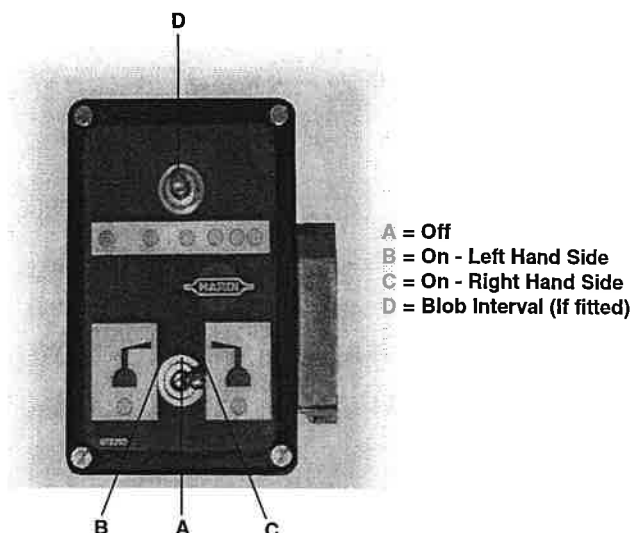

Fig 29
- 2 Check that the compressor on/off switch is at the central position (A Fig 29). Connect power supply.
- 3 Flick the switch to the left or right side (B or C Fig 29) depending on where foam is required. This starts the compressor and production of foam.
- 4 Some foam marker systems may have an additional Blob interval control switch fitted as shown in Fig 29. Blob interval can then also be adjusted by holding the interval switch (D Fig 29) to the left for fewer blobs or to the right for more blobs.